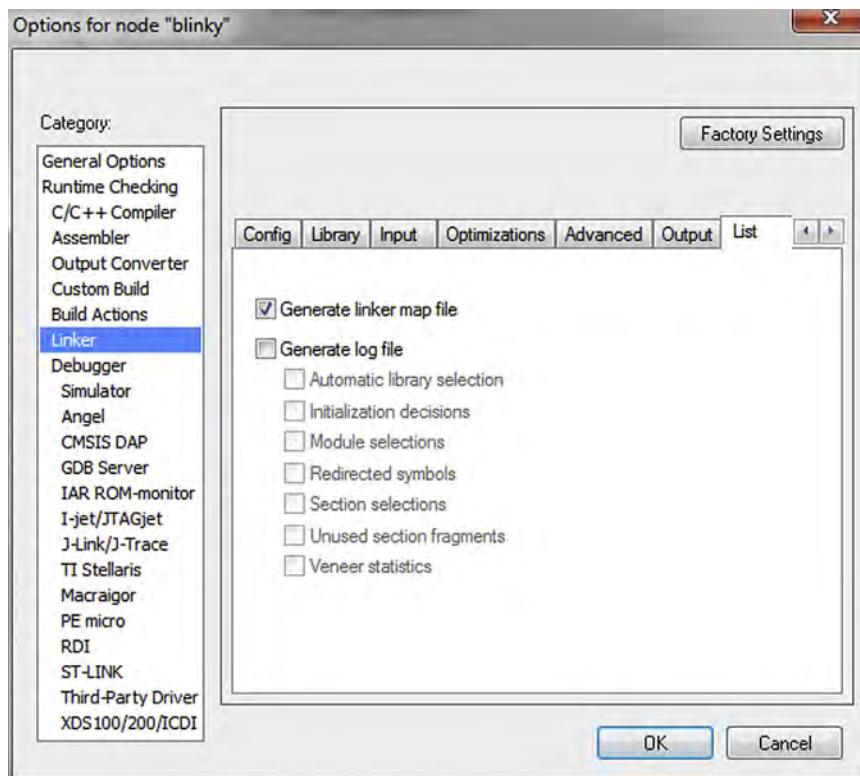

Figure 15.20
1. Enable linker map file generation (Figure 15.20), and